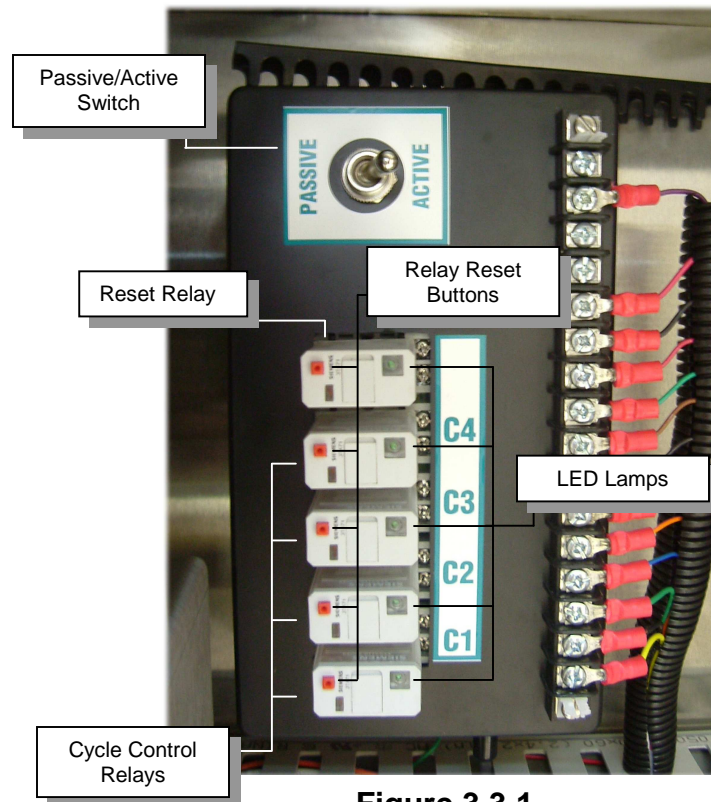

Figure 3.3.1
- Locate the Cycle Control board mounted against the back wall of the Entry Wizard 2.0. (**Figure 3.3.1**)